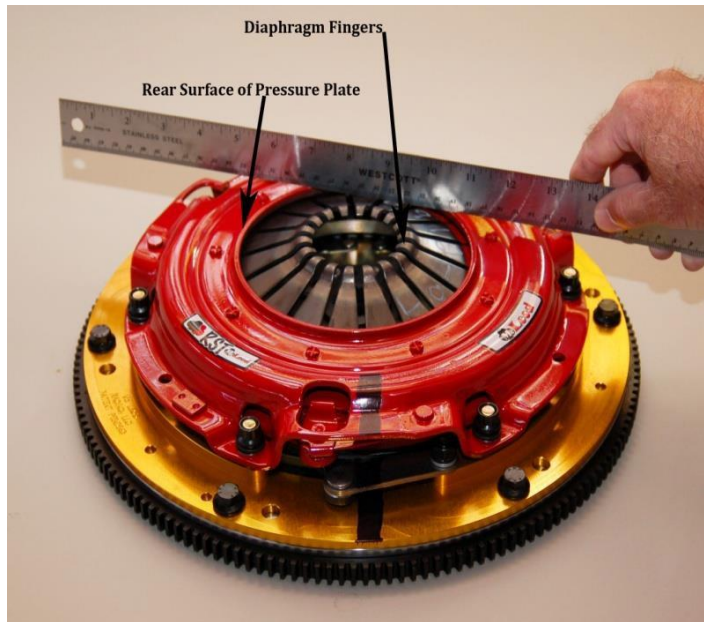

Figure 9
- 7) Check diaphragm finger height currently by placing a straight edge onto the pressure plate across the finger opening. All the fingers should be at or below the rear surface of the pressure plate. Figure 9.